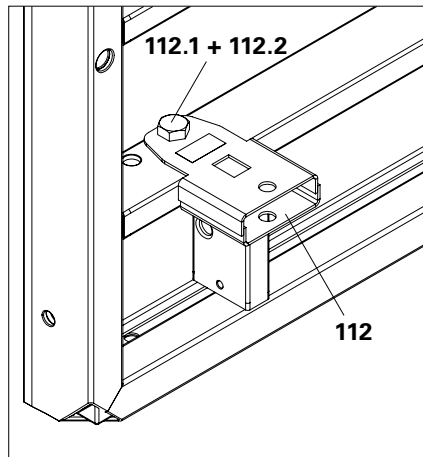
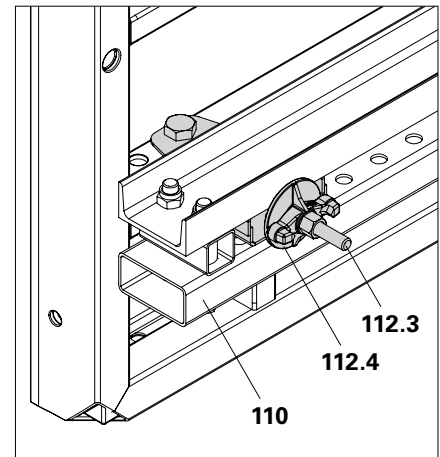

Fig. C4.03a
Fig. C4.03b
2. Fix 2x Clamp Adapter MX / TR – SRU (112) to the formwork using bolts ISO 4014 M24 x 80-8.8 (112.1) and nuts ISO 4032 M24-8 (112.2). (Fig. C4.03a)
3. Place the Formwork Waler 150 CB (110) with U-profile pointing upwards on the Clamp Adapter MX / TR-SRU (112).
4. Brace the Formwork Waler 150 CB (110) on the formwork using Tie Rod DW 15 (112.3) and Wingnut Counterplate DW 15 (112.4). (Fig. C4.03b)